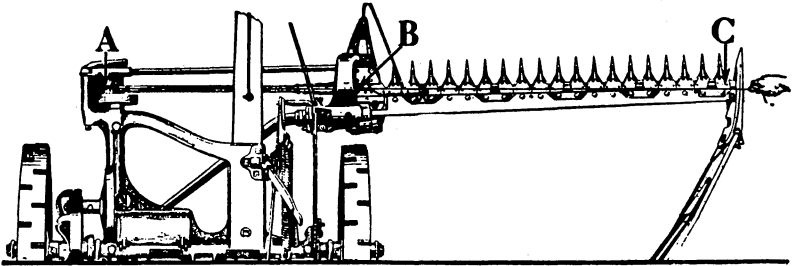

FIGURE 3.—Method of checking allnement of cutter bar.
There are several ways of checking alinement. First select a level floor and block up the tongue so that there is 32 inches between its lower side and the ground at the neckyoke; then drop the cutter bar so that the inner and outer shoes are resting on the ground (fig. 3). A string extending from center of pitman box (A) along the center line of the pitman and over the knife head (B), and extending in a straight line to C, will give a base line from which to measure proper